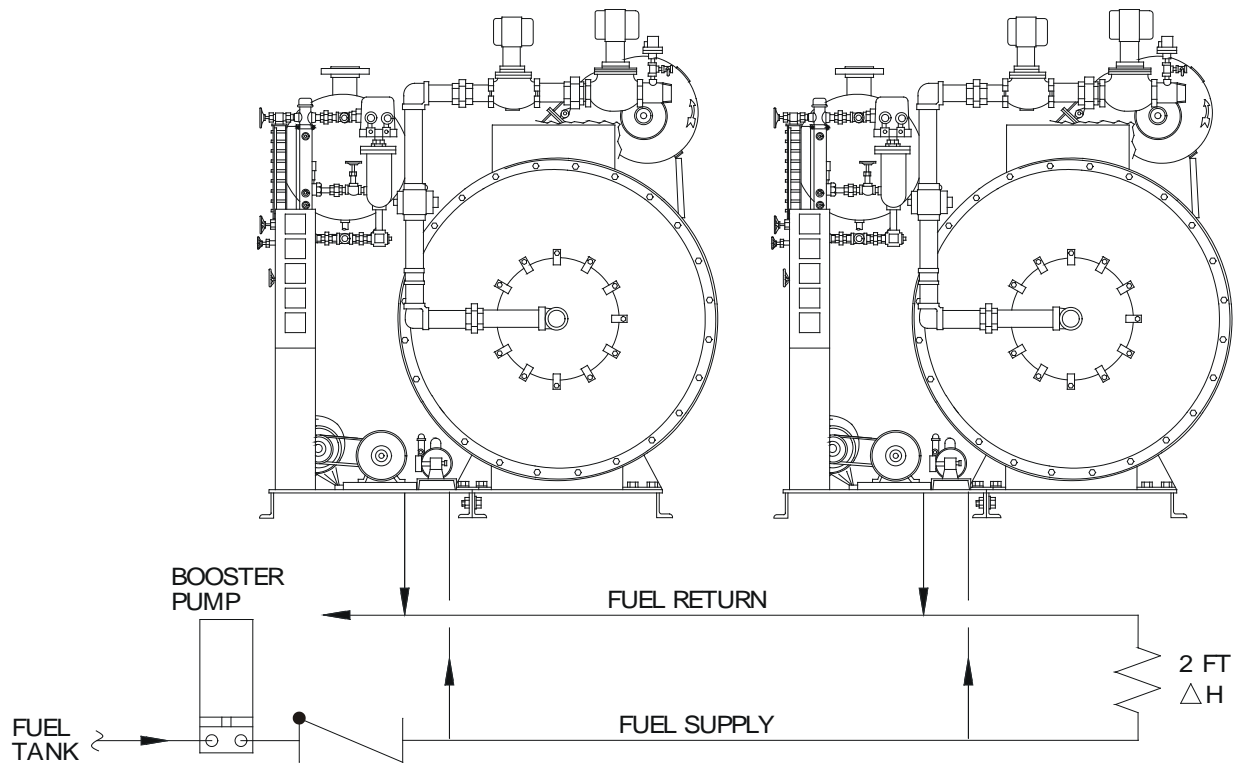

Figure 21. “Open” Loop Fuel Oil Piping Arrangement
- 10.2.9.1** Figure 21 illustrates the use of an “open” loop in a multiple heater installation. A booster pump situated near the fuel tank draws fuel from the tank and forces it through a line leading to the units. The unit fuel pump draws fuel from this line and returns what is not burned to a system line that returns to the fuel tank. A fixed restriction at the remote end of the supply line, usually in the form of a U-shaped standpipe, provides a positive head for the inlet of the boiler fuel pumps.